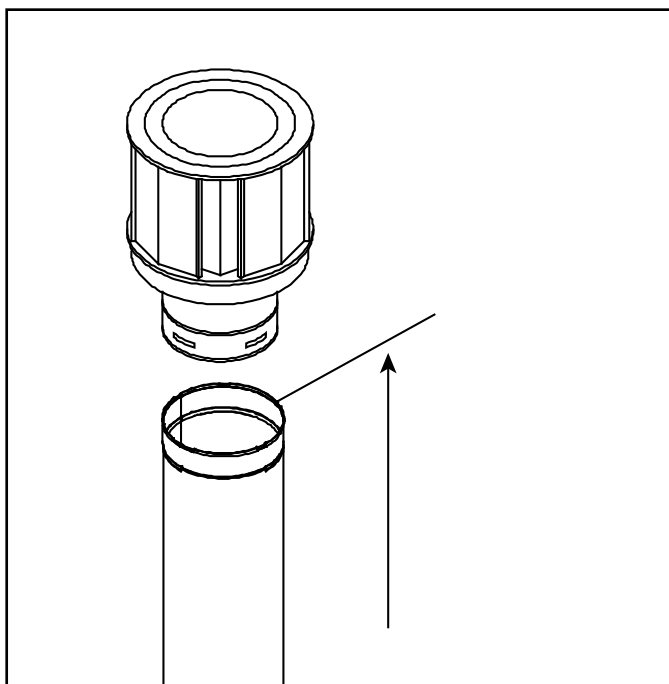

Figure 4.7 Measure to Top of Last Section of Pipe
- Vertical terminations are measured to top of last section of pipe. See Figure 4.7.